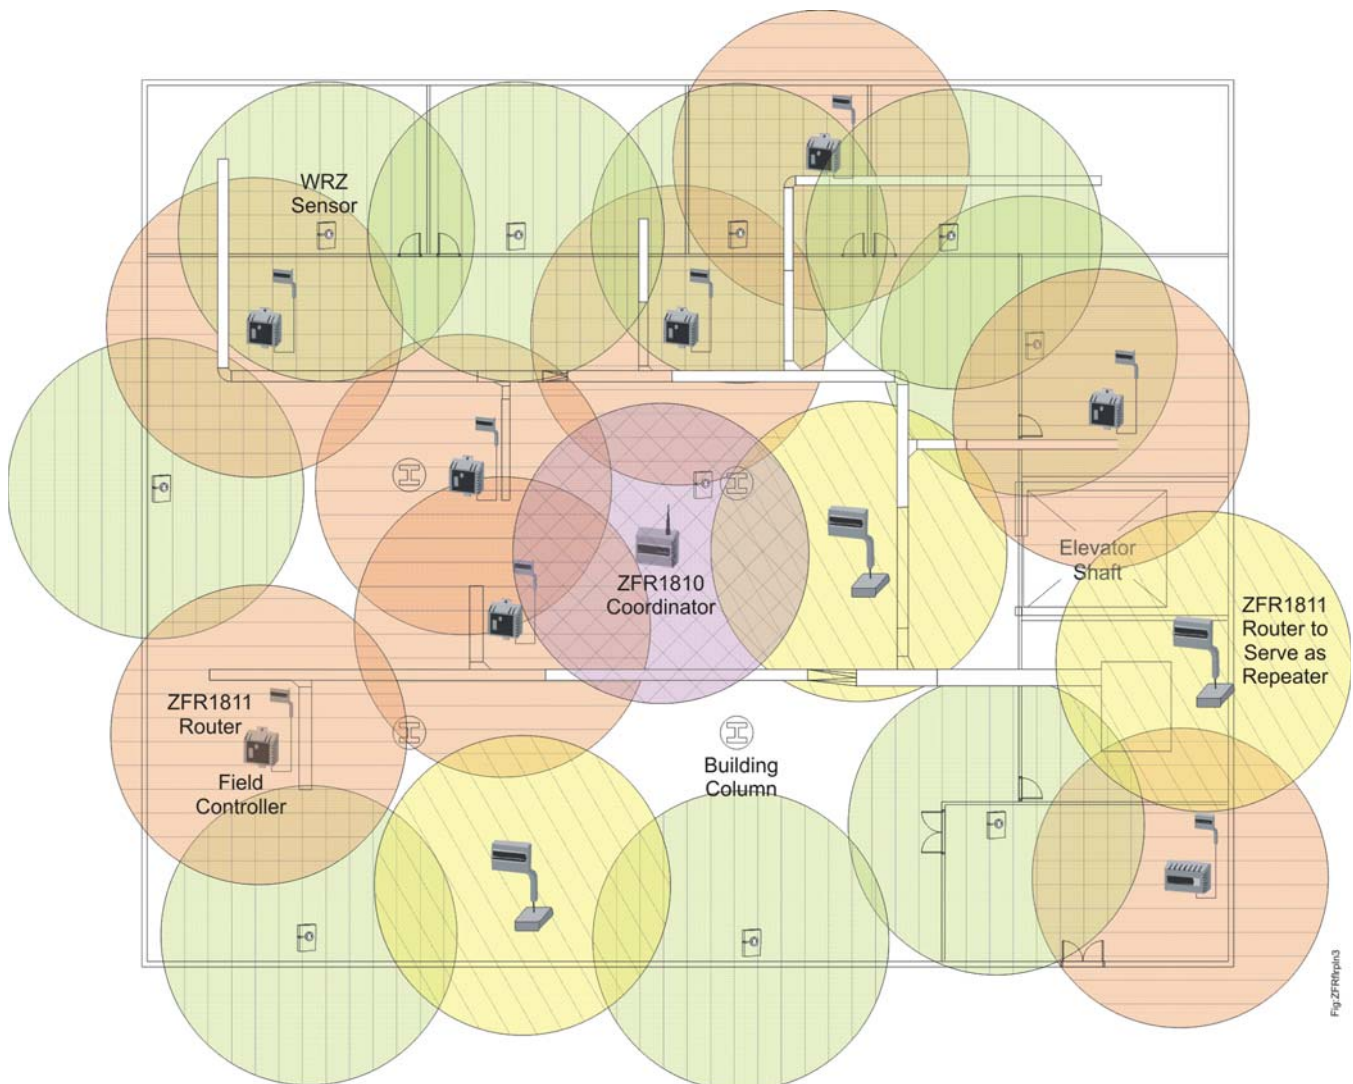

Figure 6: Building Floor Plan with ZFR1800 System Including Repeaters
6. Add ZFR1811 Routers and ZFRRPT Repeater accessories to serve as repeaters in order to fill in gaps and provide multiple wireless transmission paths between products. See Figure 6.